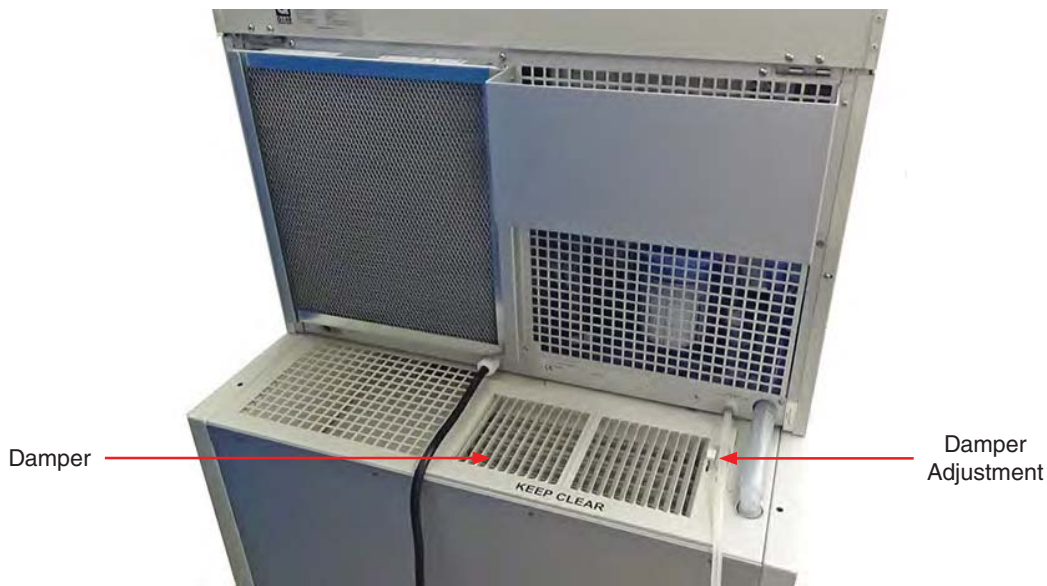

Figure 9.3d: Rear view of Xe-1-BCE or Xe-1-SCE showing damper.
- The Xe-1-BCE and Xe-1-SCE chiller includes a manually-operated damper which is opened in a warm or normal temperature lab to allow maximum cooling efficiency, but is partially closed in a cool (20 °C / 68 °F or less) room to recirculate some of the exhausted heat (Figure 9.3d).